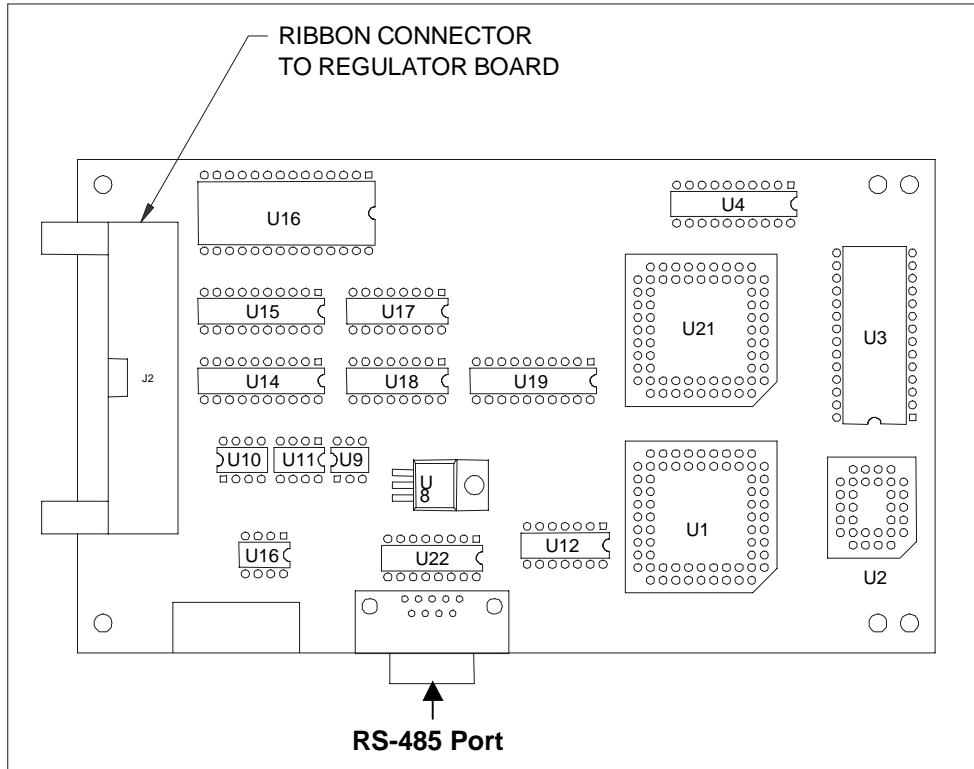
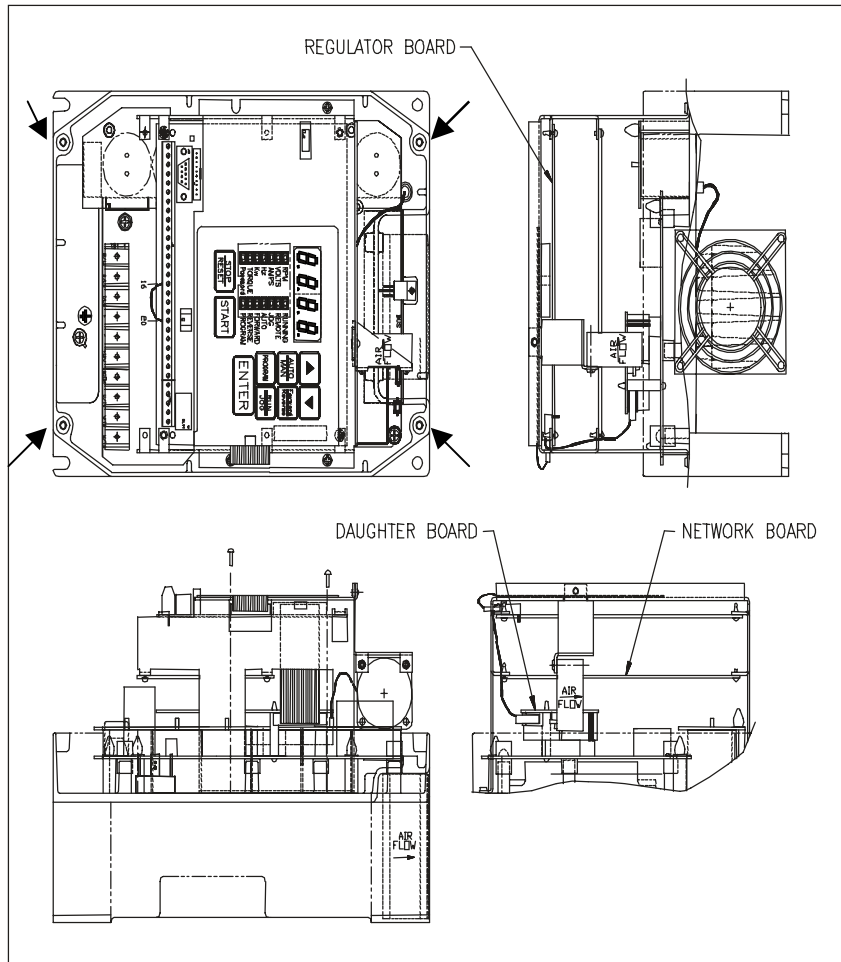

Figure 2.1 – RTU/Modbus Option Board
Figure 2.2 – GV3000 Drive (1-5 HP)
Refer to Figures 2.1 – 2.4.
2. Loosen the four (4) captive screws at the corners of the GV3000 controller cover and remove the cover. **Refer to Figure 2.2.**
5. Remove the three (3) screws that fasten the stand-off bracket (to which the regulator board and keypad are mounted) to the controller base, and remove the regulator board/keypad/bracket assembly from the controller.
6. Invert the regulator board/keypad/bracket assembly so that the keypad is on the bottom. The ribbon cable that connects to the daughter board extends from the left of the regulator board, and the ribbon cable that connects to the RTU/Modbus Network Communications Option Board extend from the right of the regulator board. **Refer to Figure 2.1.**
8. Mount the RTU/Modbus Network Communication Option Board to the underside of the stand-off bracket. Use the two- (2) M3 self-tapping screws and lock washers (provided) on the right side. Use the two (2) plastic rivets to fasten the left side of the board to the stand-off bracket.